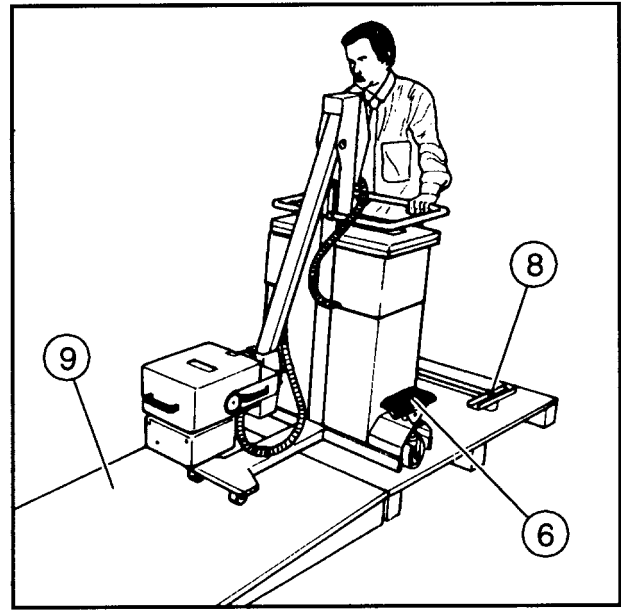

Fig. 3
- Bring the foot pedal from the locking position into the maneuvering position (6/Fig. 3). For other foot pedal positions, refer to the operating instructions.
- Push the POLYMOBIL Plus over the rail (8/Fig.3) and move it off the pallet via the ramp (9/Fig. 3).